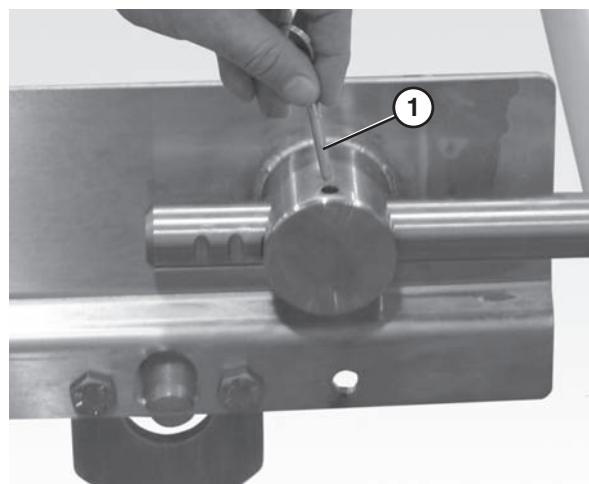

Figure 40
8. Insert the pull pins (Figure 40, item 1) on the tension end of the conveyor.